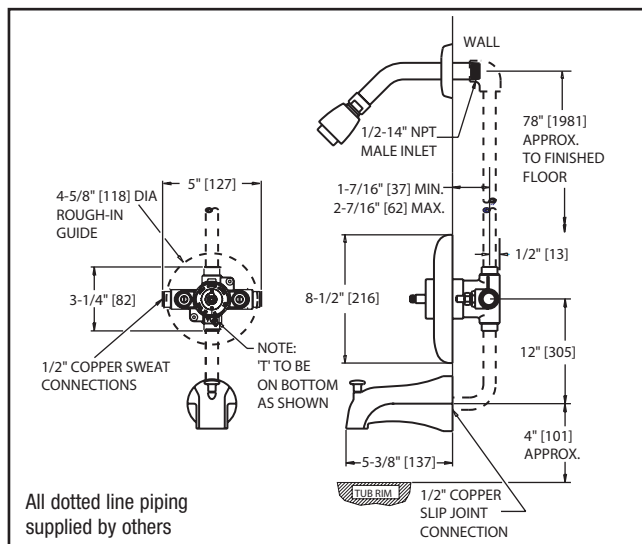

Figure 1: Rough-in Dimensions - Tub & Shower
- For **tub and shower installations** (see Figure 1). Pipe bottom outlet port "TUB" directly to the diverter tub spout. The mixer body is designed to operate without the use of a twin ell. Pipe top outlet port "S" to the showerhead.